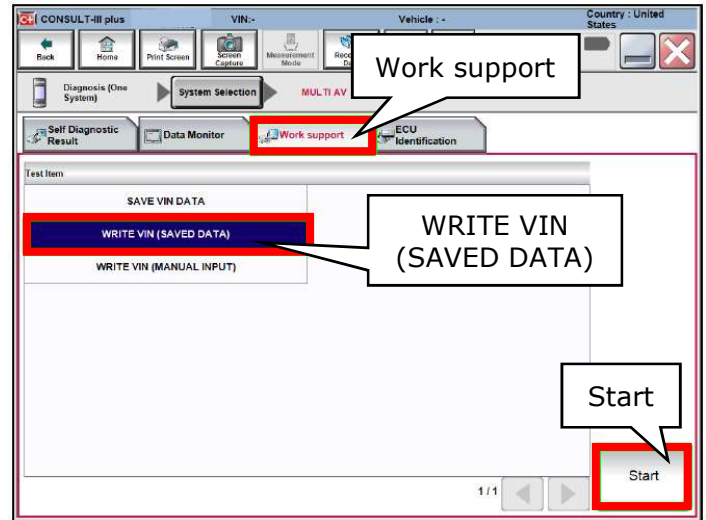

Figure 40
43. Select **Work support**. (Figure 40)
- Select **WRITE VIN (SAVED DATA)** (Figure 40)
- Select **Start** (Figure 40)